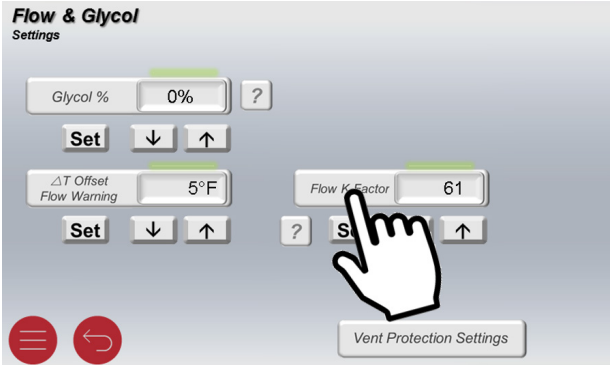

Figure 65. Flow K Factor Settings
4. Tap 15 times over "FLOW K FACTOR" legend to show the visual aid to get the new K-Factor. See **Figure 65**.